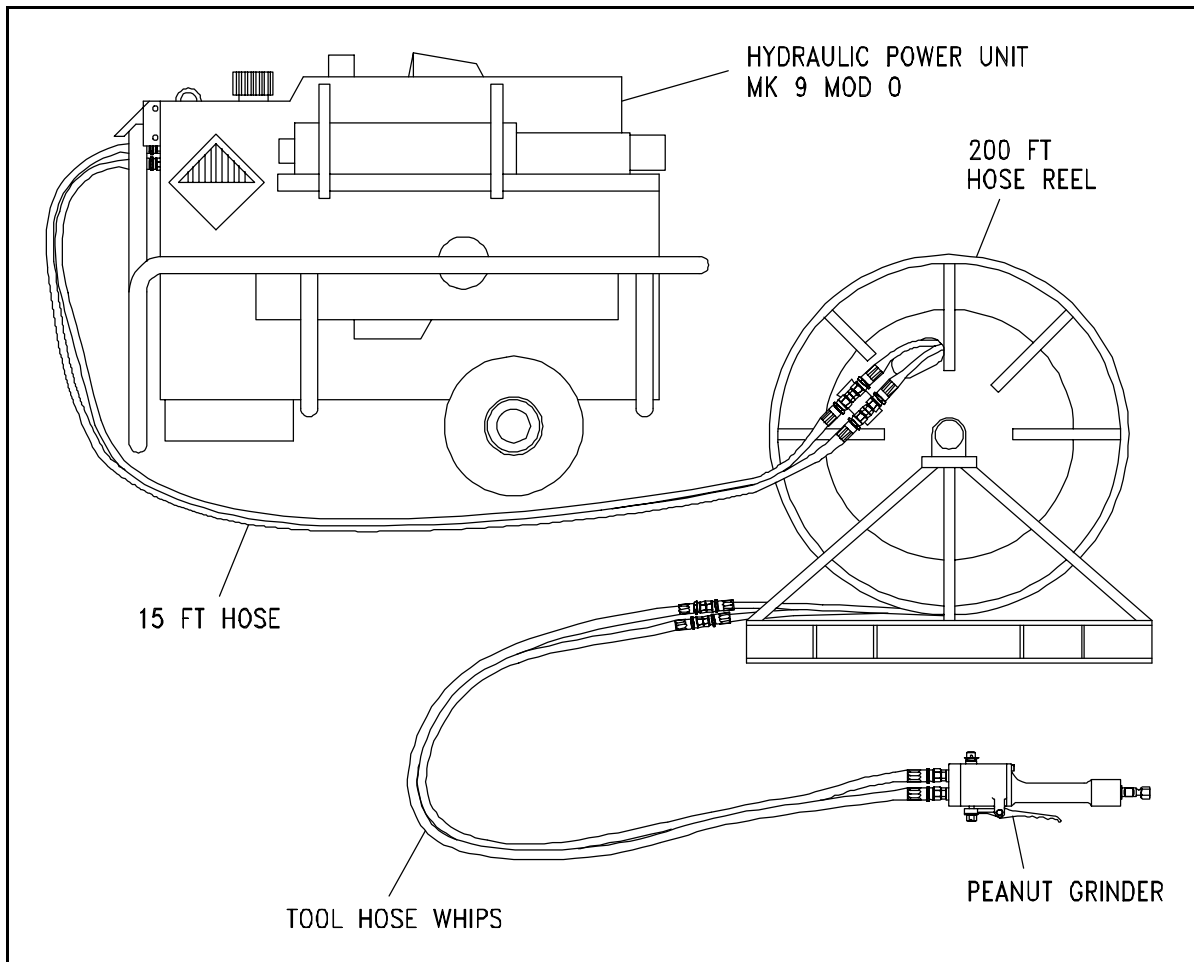

Figure P-1. Peanut Grinder Setup.
The NAVSEA approved hydraulic Peanut Grinder, Fairmont Model HU6935, is designed for grinding in hard to get at places. Figure P-1 illustrates a typical setup for a peanut grinder using a 200-foot hydraulic hose reel and a MK-9 Mod 0 hydraulic power unit (HPU).
- b. Position HPU and hose reel in close proximity to each other, relative to length of connecting hoses as shown in Figure P-1.